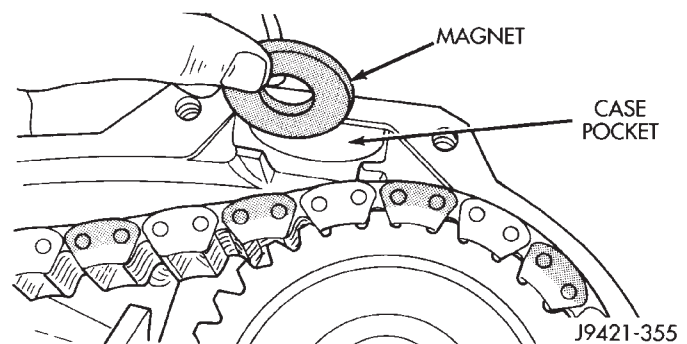

Fig. 93 Case Magnet Installation
- (9) Insert magnet in front case pocket (Fig. 93).